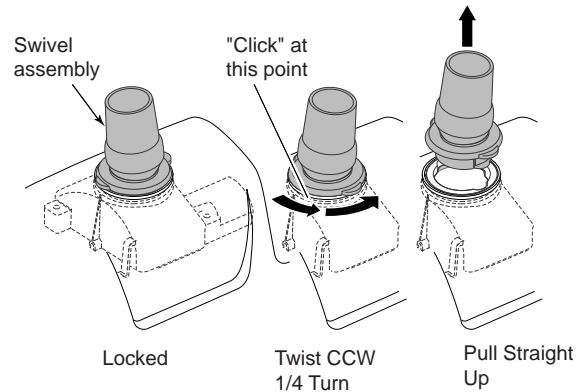

Figure 13
1. Remove swivel assembly (Figure 13) from the top of the cleaner by turning it 1/4-turn counterclockwise and pulling straight up on it.